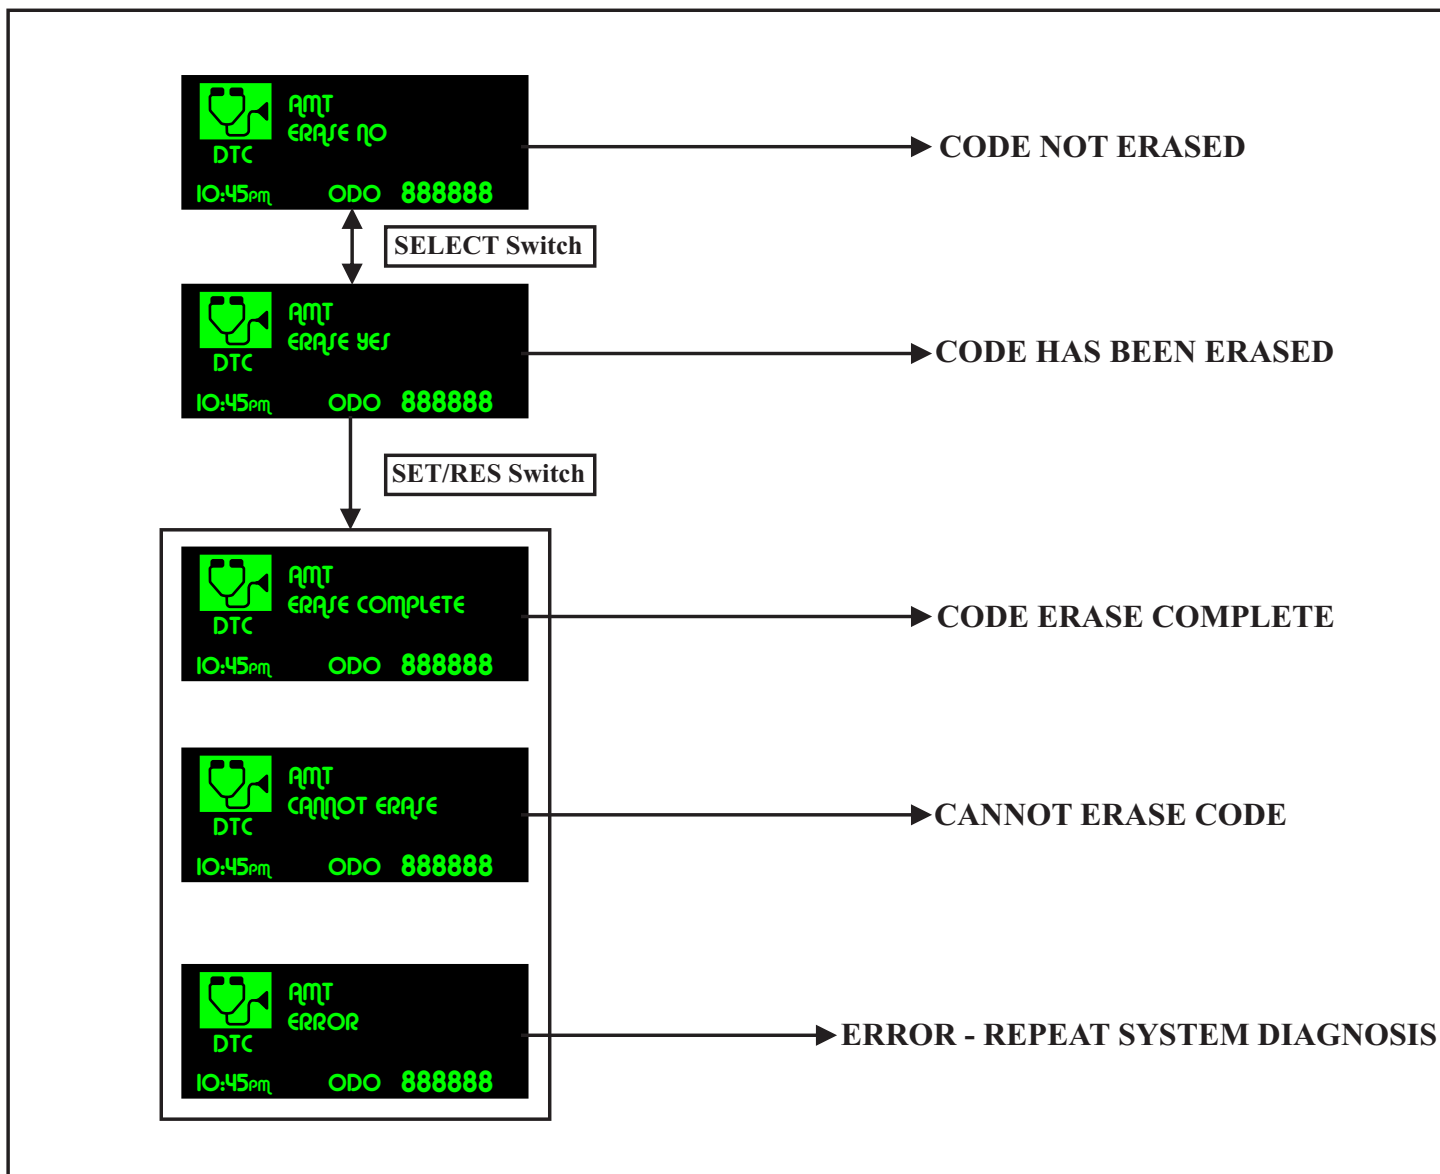

Figure 7
- If the SET/RES switch is pressed in the ERASE YES screen, all diagnosis codes stored in the selected module will be erased and ERASE COMPLETE will be displayed, see figure 7.